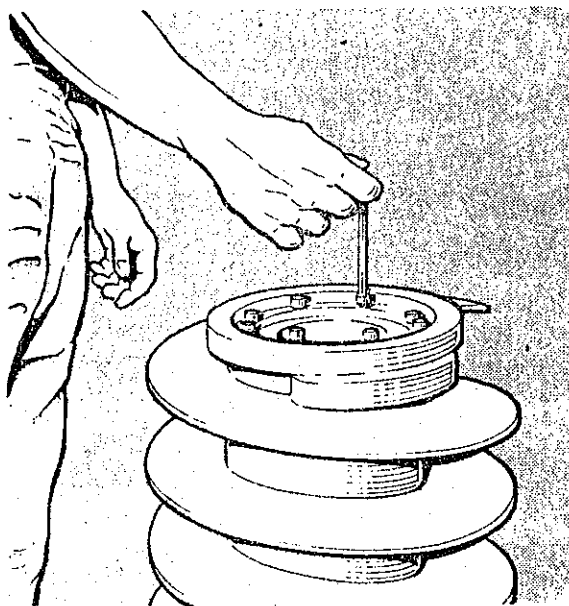

Figure 14. Spline Bushing Screws removal
- (i) Remove the eight (8) spline bushing screws (Figure 14).